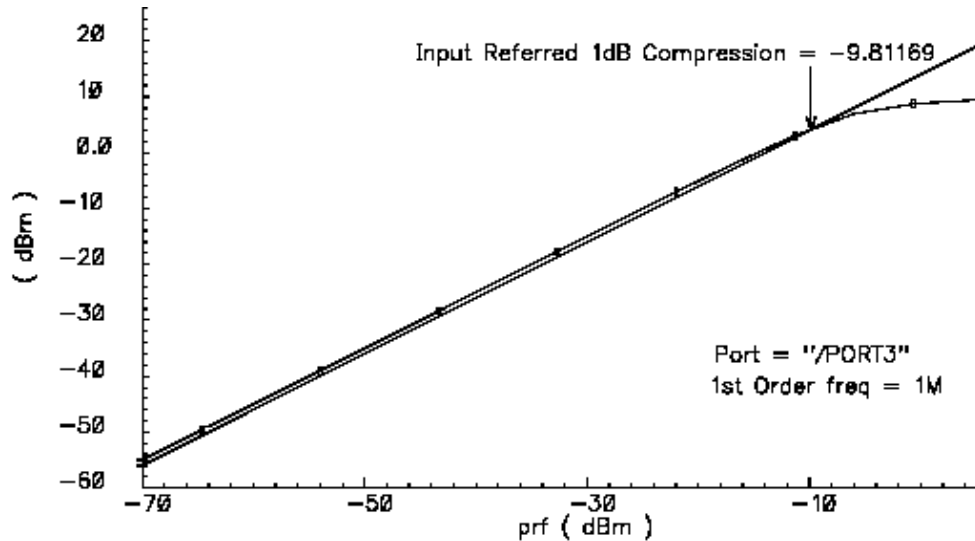

Fig 11: 1db Compression point and IIP3
- The resulting plot is shown in Fig11